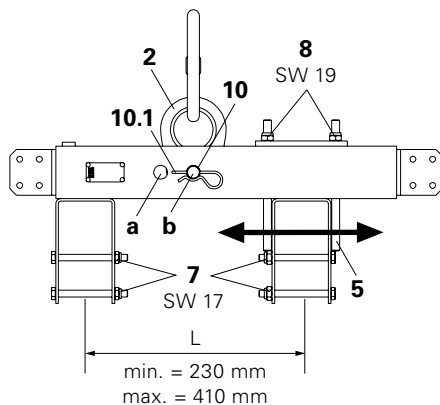

Fig. 5
1. Release top two Nuts M12 (8).
2. Remove bottom eight Nuts M10 and Bolts M10 (7) from the Crane Hook 2 t / GT 24.
3. Adjust Mounting Shoe (5) by moving in order to suit the element geometry. (Fig. 5)
- (Fig. 5)